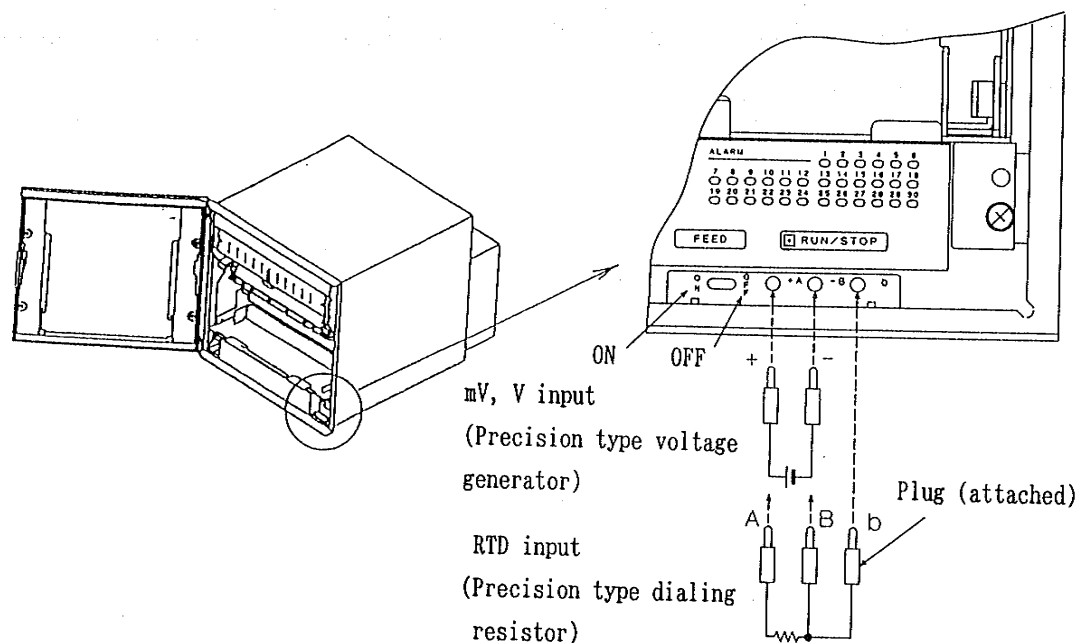
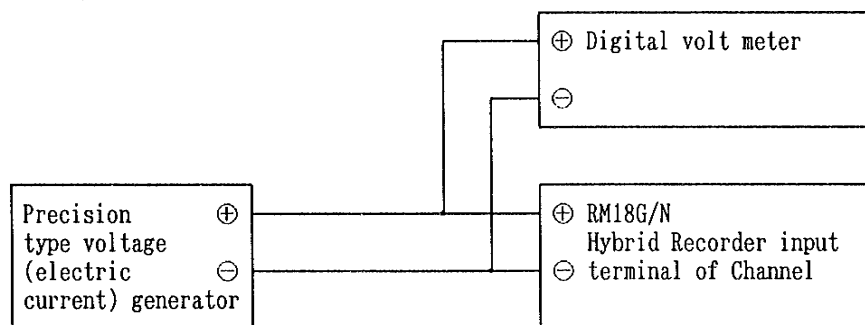

Fig. 11.3 Input from Front Calibration Terminal (Option)
Fig. 11.6 Wiring for Range Adjustment 1
- ◆ In case of rear part input, the input wiring at the impressed input channel terminal selected by the step in the article ◆, has to be installed (see Fig. 11.6 shown below). In case of front calibration input, the wiring has to be installed using the attached plug with a lead wire according to Fig. 11.3.